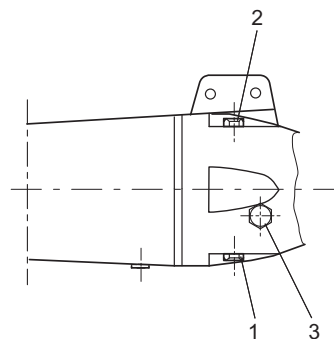

Fig. 39 Position of oil drain and oil filling screws on SMG and SFG
2. Remove the screw (2, fig. 39).
3. Remove the oil drain screw (1), and allow the oil to drain from the chamber into a glass. Leave the oil in the glass for approx. 10 minutes, and check if it contains water. If the oil contains water, replace the shaft seal.